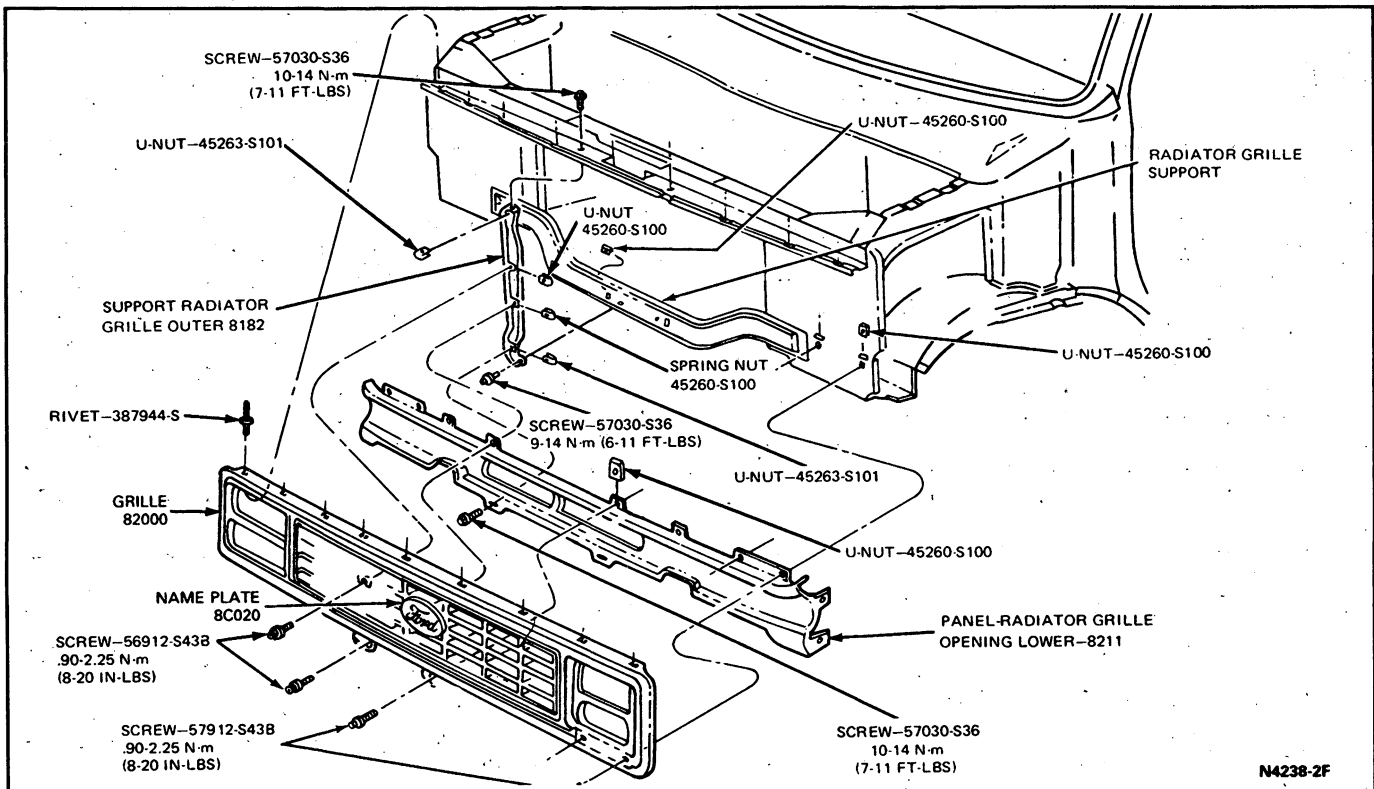

FIG. 1 Grille Installation
2. Remove the four screws attaching the center of the grille to the radiator grille supports (Fig. 1).
2. Install the two center screws, but do not tighten fully. Check the alignment on grille for uniform spacing relative to the fender screws. Tighten the center screws to 0.90-2.25 N·m (8-20 in-lb) (Fig. 1).
2. Remove the radiator grille as outlined (Fig. 1).
2. Install the two lower center screws attached to the radiator grille support (Fig. 1).
5. Install the radiator grille as outlined (Fig. 1).